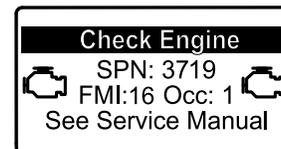

Figure 41
- If a parked regeneration is needed, the InfoCenter displays engine warning SPN 3719, FMI 16 (Figure 41) and the engine computer derates engine power to 85%.